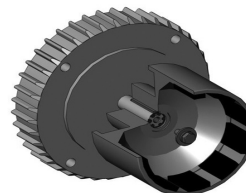

Figure 4
Metric Motors: Secure the drive to the motor shaft using bolt, lock washer and flat washer (items 21, 22, 23). Thread the bolt into the end of the motor shaft (while holding the outer drive to prevent it from turning). See figure 4.